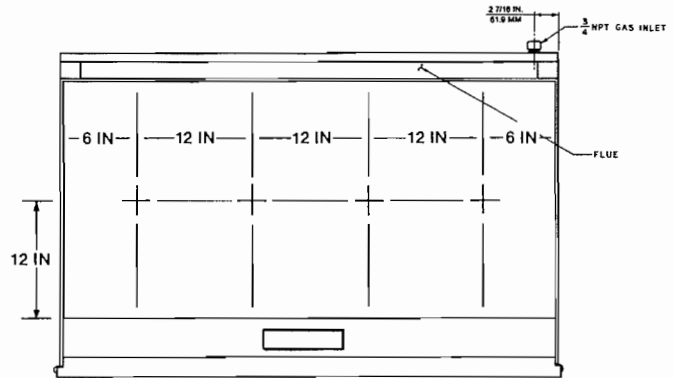

Fig. 4 Thermostat bulb locations. (Shown for GG048. Locations are comparable for GG036 or GG072, (6 inches from the sides and 12 inches between thermostats).)
- Using an accurate pyrometer measure the temperatures at the thermostat bulb (see figure 4) when the burner ignites and extinguishes.